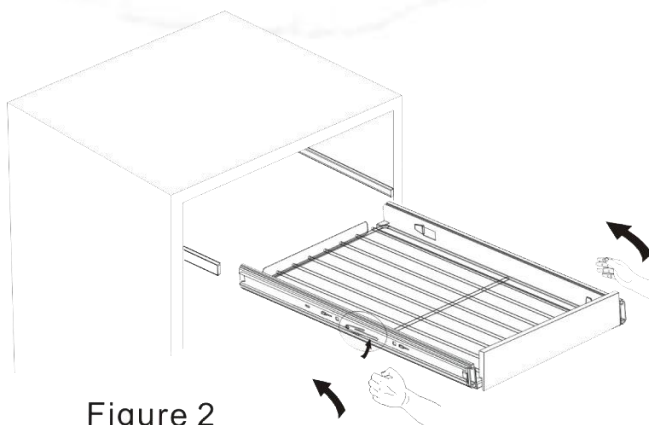

Figure 2
3. Push the racks into the sliders (see figure 2).